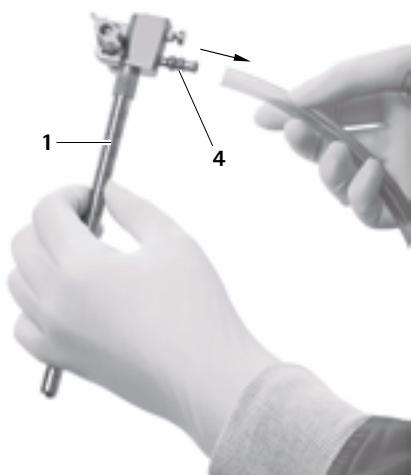

Fig. 12
- Remove tube from irrigation connector 4, see Fig. 12.